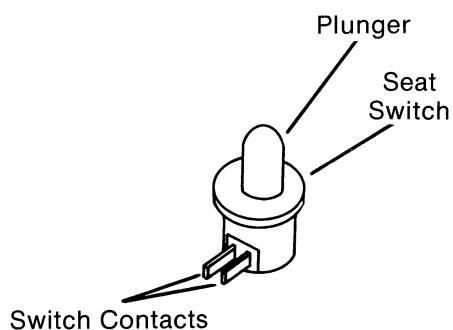

FIG. 40
G. Test seat switch by raising seat, disconnect all wires and remove switch from mounting. (Fig. 40) With switch plunger up, continuity should exist with plunger depressed, continuity should **not** exist.